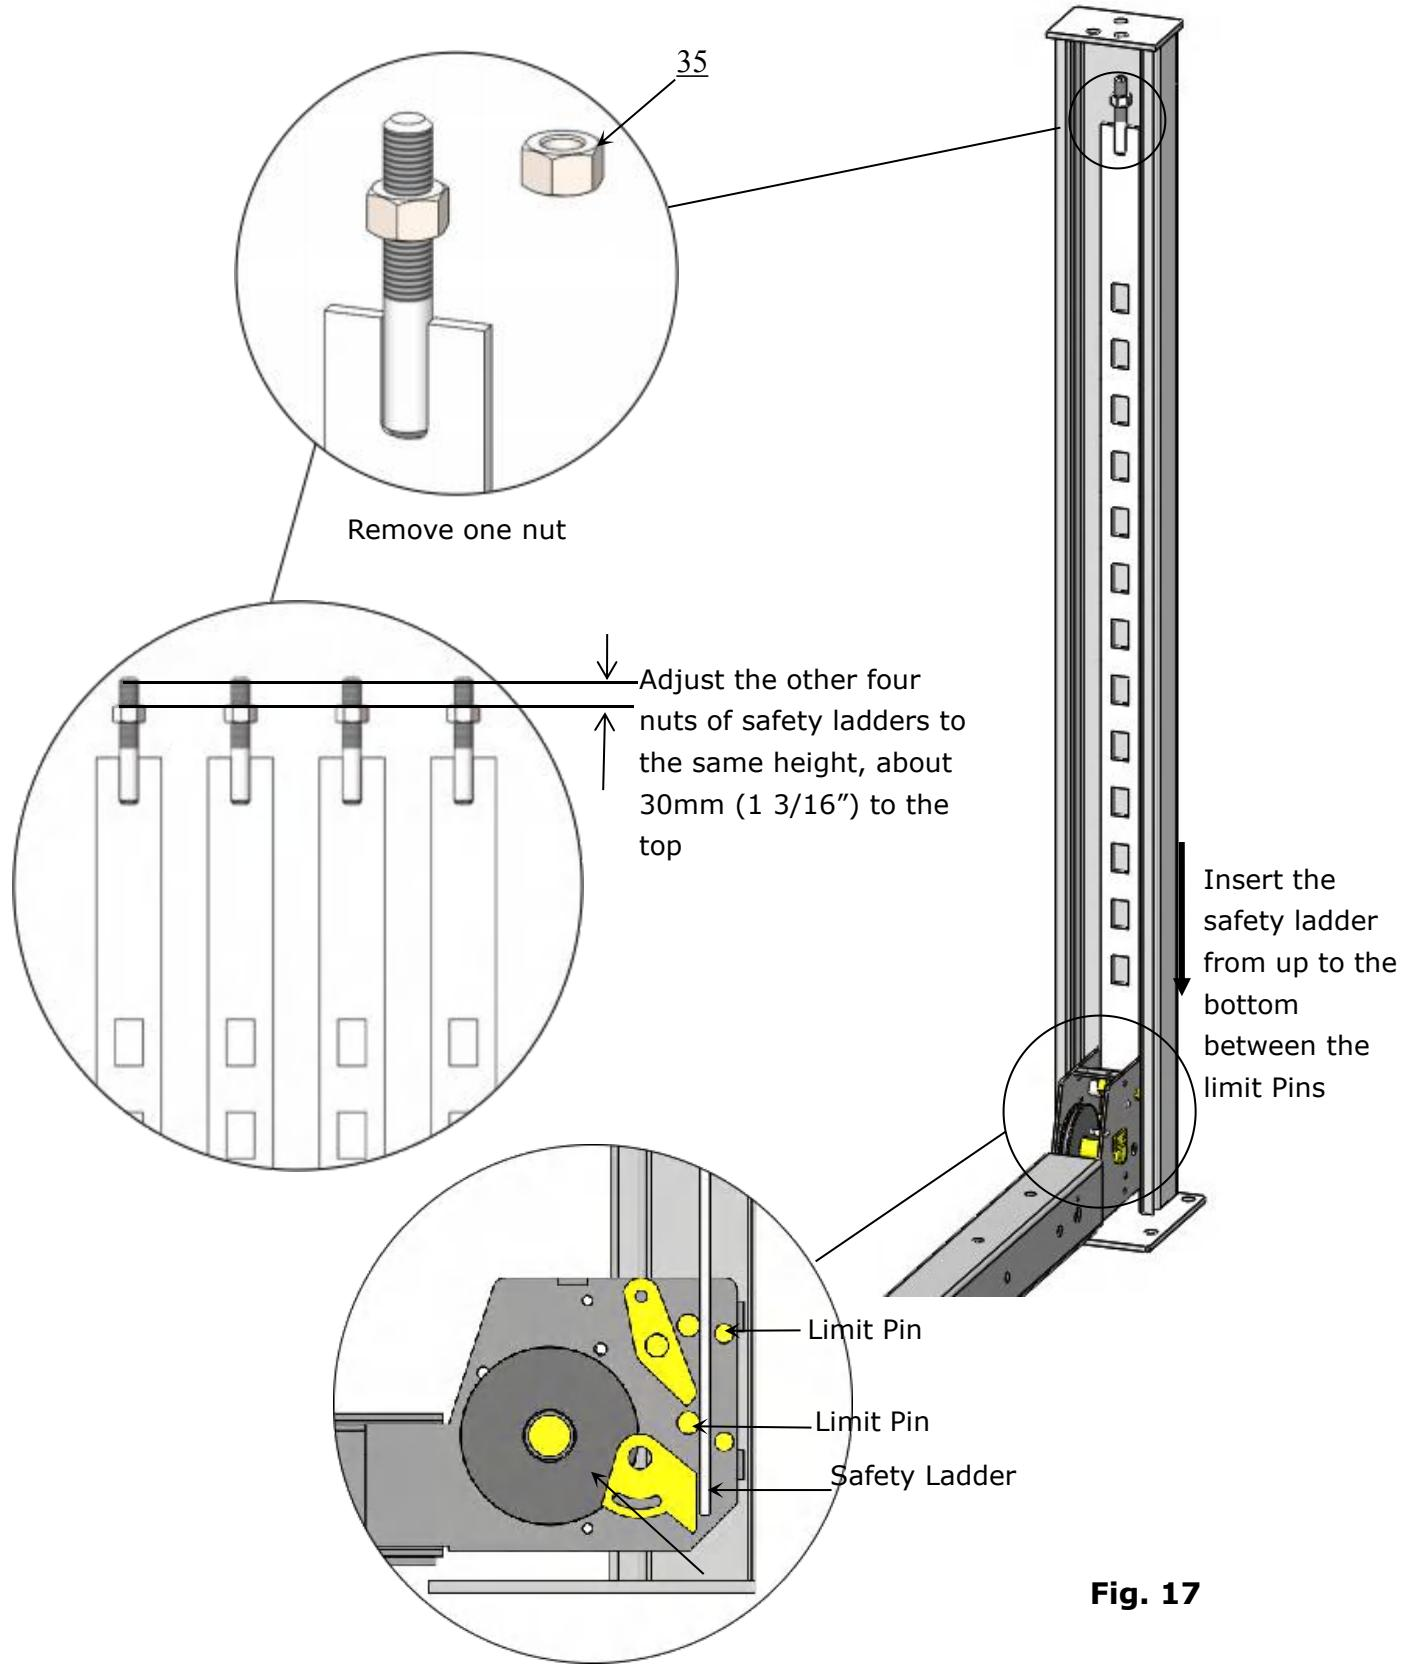

Fig. 17
1. Remove one nut from the safety ladders, and adjust the other nut to the proper position that all nuts of 4 safety ladders at the same height. Then install the safety ladders. (See Fig. 17).